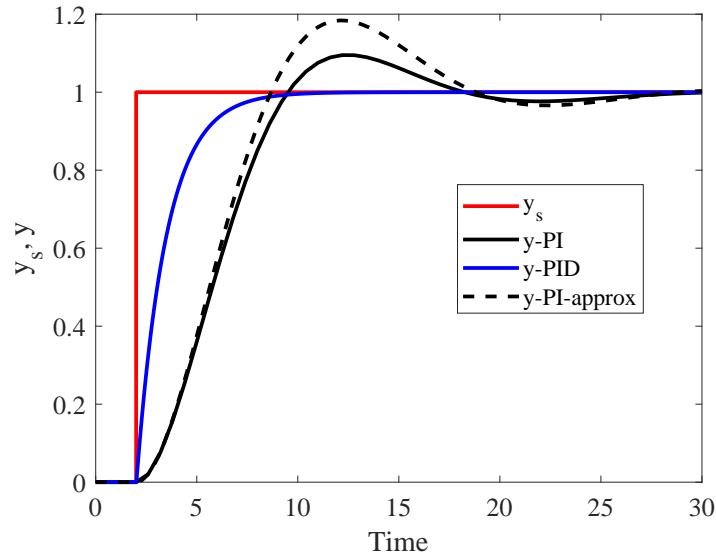

Figure 3: Closed-loop responses for setpoint changes for PI and PID
- (d) Sketch in Fig. 3 the closed-loop response for a step in setpoint for both the PI and PID controllers with the obtained tuning parameters. We start by deriving $T(s)$, the transfer function from the setpoint $y_s(s)$ to the output $y(s)$, considering:
The results for a unit step change in the set point are shown in Figure 3, both for PI with $T(s)$ from Eq.3(black)and with approximated $T(s)$ from Eq. 8 (dotted), and PID (blue) controllers. The approximated PI (dotted line) is not that accurate, due to using the half rule twice (once for approximating $g(s)$ to obtain $c(s)$, and second for approximating $L(s)$). However, for the purpose of sketching the response in this exercise, it is good enough.